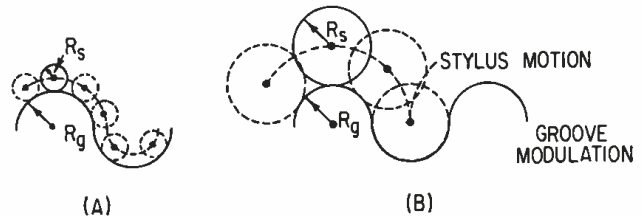

Figure 5. The effect of tip radius on tracing distortion. At (A) is a small tip radius while at (B) the effects of a large tip radius may be seen.
**Tip Radius:** Tracing distortion is directly proportional to the tip radius. As the tip radius increases, the difference between the distances the ball center travels on the convex and concave segments of the groove contour increases and thus increases the distortion. FIGURE 5 shows two identical grooves; in FIGURE 5(A) it is played with a relatively small tip radius, and in FIGURE 5(B) with a large tip whose radius equals the modulation radius. The distortion is negligible in FIGURE 5(A) compared to the high distortion of FIGURE 5(B).